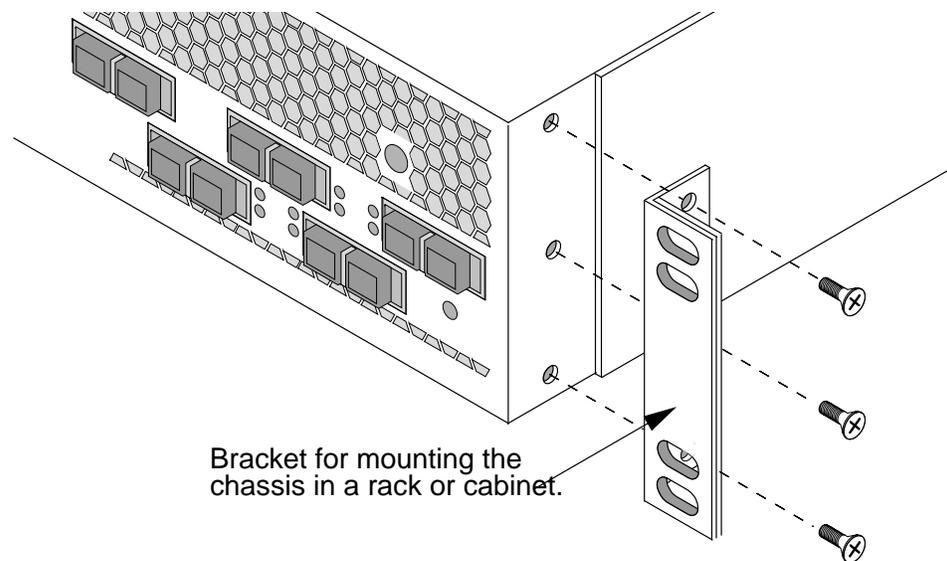

Figure 2-2 Cabinet Mounting Bracket
- c. Mount the Brackets. Refer to Figure 2-2. The Switch is shipped with a package containing cabinet mounting brackets and screws. You may mount these brackets on the front corners of the chassis or the back corners depending on whether you want the Switch facing the back or front of the cabinet.